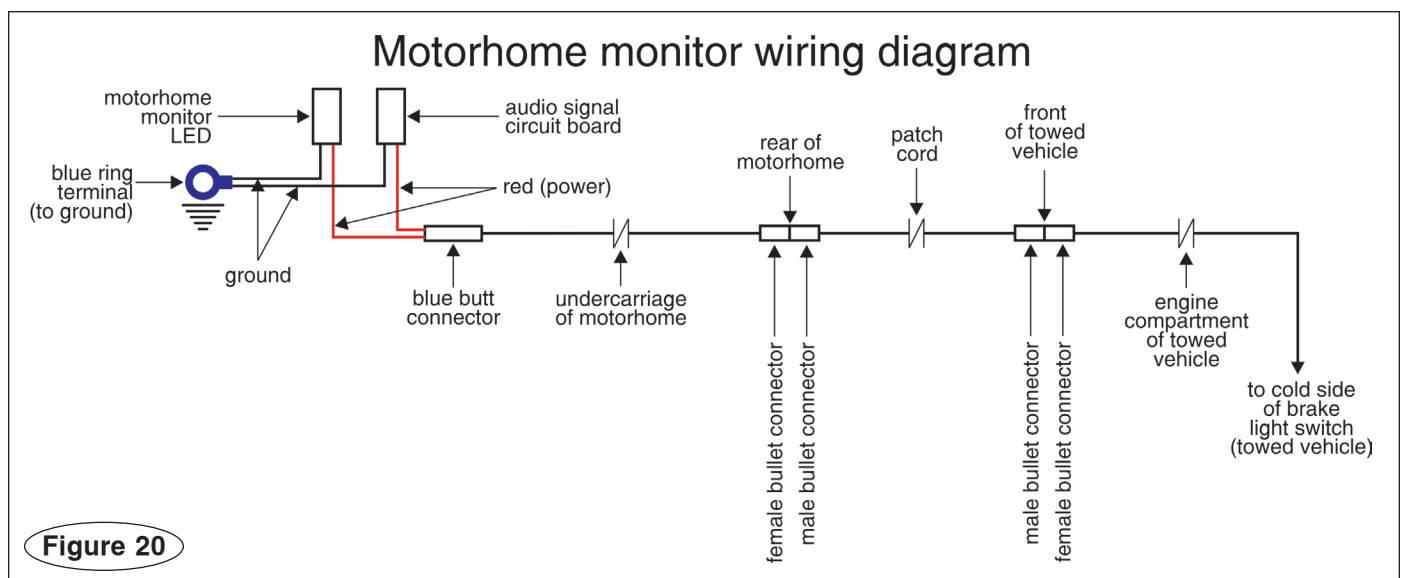

Figure 20
8. With one or more wire ties, attach the audio signal circuit board (Figure 20) to the underside of the dash, as close to the LED as possible.
9. Connect the monitor LED, audio signal circuit board and the black wire from the rear of the motorhome as shown in Figure 20.